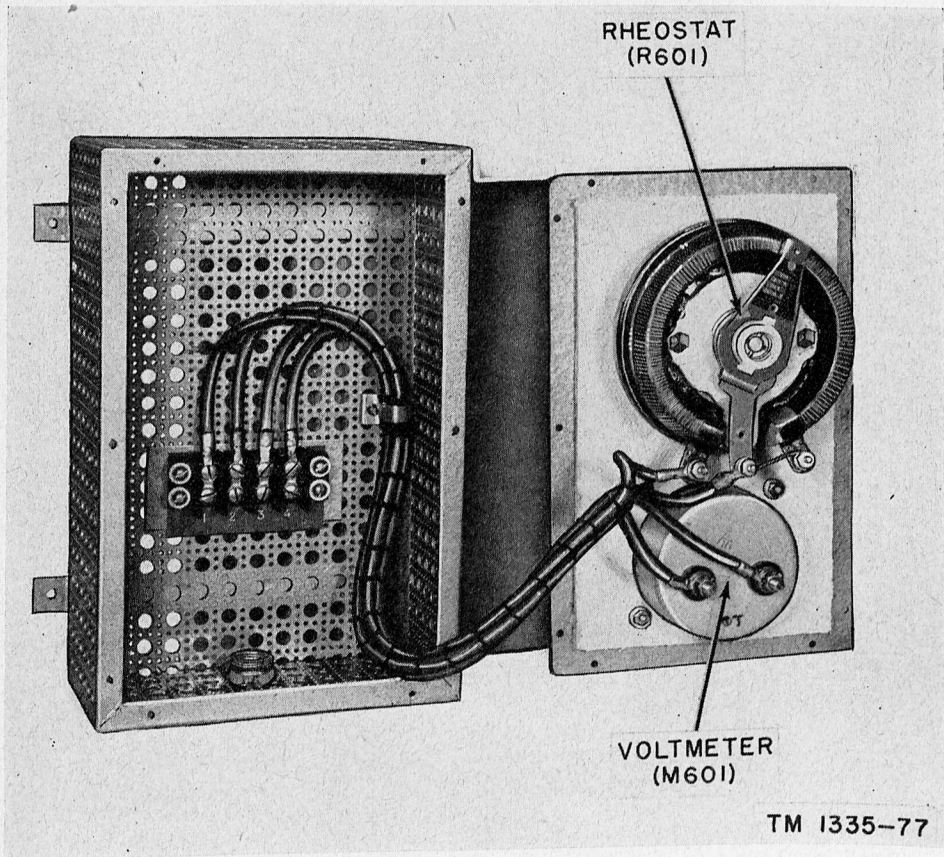

Figure 45. Voltage regulator terminal board, rheostat, and meter.
- (2) Connect the two conductors of cable W712 to the input terminals of the switch box.
g. Voltage Regulator. Connect the four conductors of cable W703 to the voltage regulator (fig. 45).